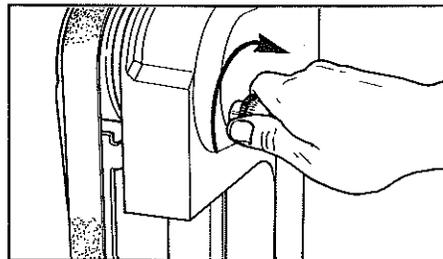

Figure 9. Adjust the tracking if the belt is "riding" off center of platen.
**12. Check belt tracking.** Turn on the power momentarily (no more than one second). Check to see that belt rides parallel to and down the middle of the platen; and that the belt is riding against the face of the platen. If the belt is "riding" to left of center on the platen and wheel, turn the tracking control knob (24) clockwise (Figure 9), or if the belt is "riding" too far right on the platen, turn the tracking control knob counterclockwise.